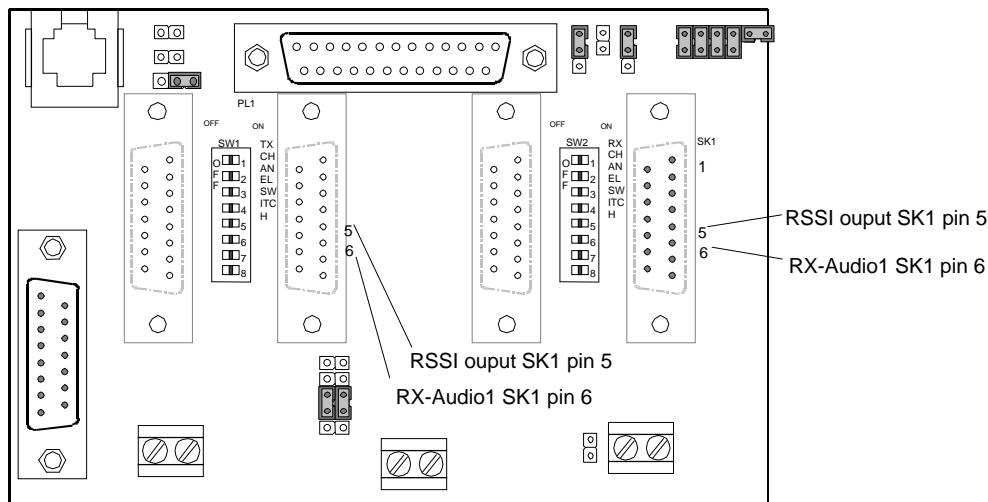

Figure 24 - T800-50-0001 Backplane
- Caution: mis-adjusting RSSI may reduce the ParagonPD+'s Parallel Decode (PD) performance.
- Adjust RV 345 (RSSI level) for T885, RV320 (RSSI level) for T855 to give 2.0V RSSI output at SK330 pin 2 (T855) or on backplane SK1 pin 5 when measured with a voltmeter (See Figure 24 for test point location).
- Adjust RV320 (RSSI level) to give 4.5V RSSI output at RSSI test point (near quad. Coil L360) or on backplane SK1 pin 5 when measured with a voltmeter (Figure 24 - T800-50-0001) for test point location).